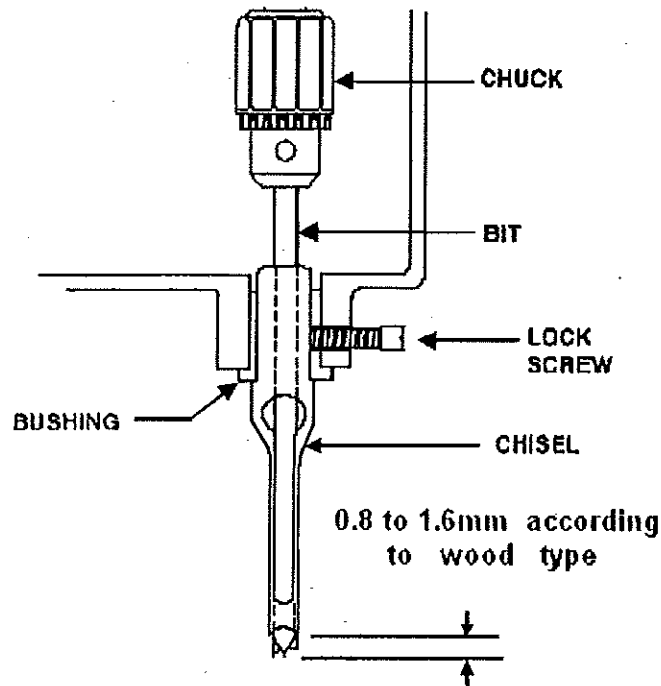

FIGURE 2
1. Loosen lock screw, shown in Figure 2.